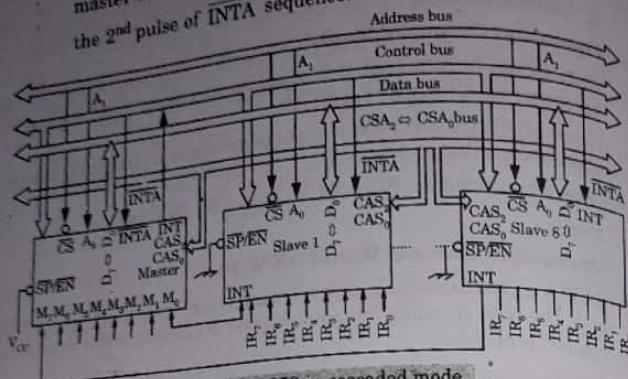

Fig. 5.20.1. 8259 in cascaded mode.
6. A separate decode is required to select each chip of the 8259 by activating its chip select pin. Fig. 5.20.1 shows the details of the cascaded mode of 8259.